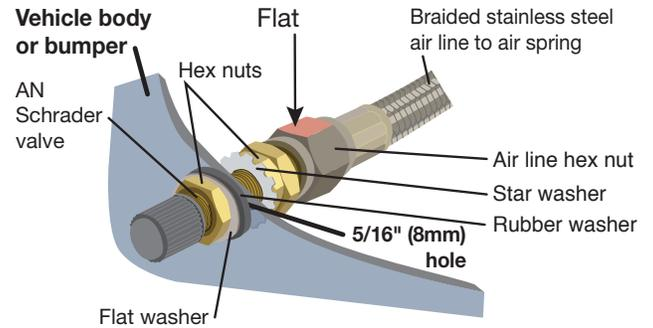
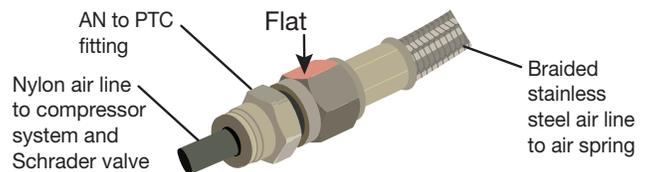

Fig. 26
Fig. 27
2. Tighten the air line hex nut finger-tight, then use 2 wrenches to turn 1 additional flat (1/6 of one full turn). **Do not overtighten** (Fig. 26 or Fig. 27). The easiest way to tighten the fitting is off the vehicle. Install the Schrader valve in the chosen location.